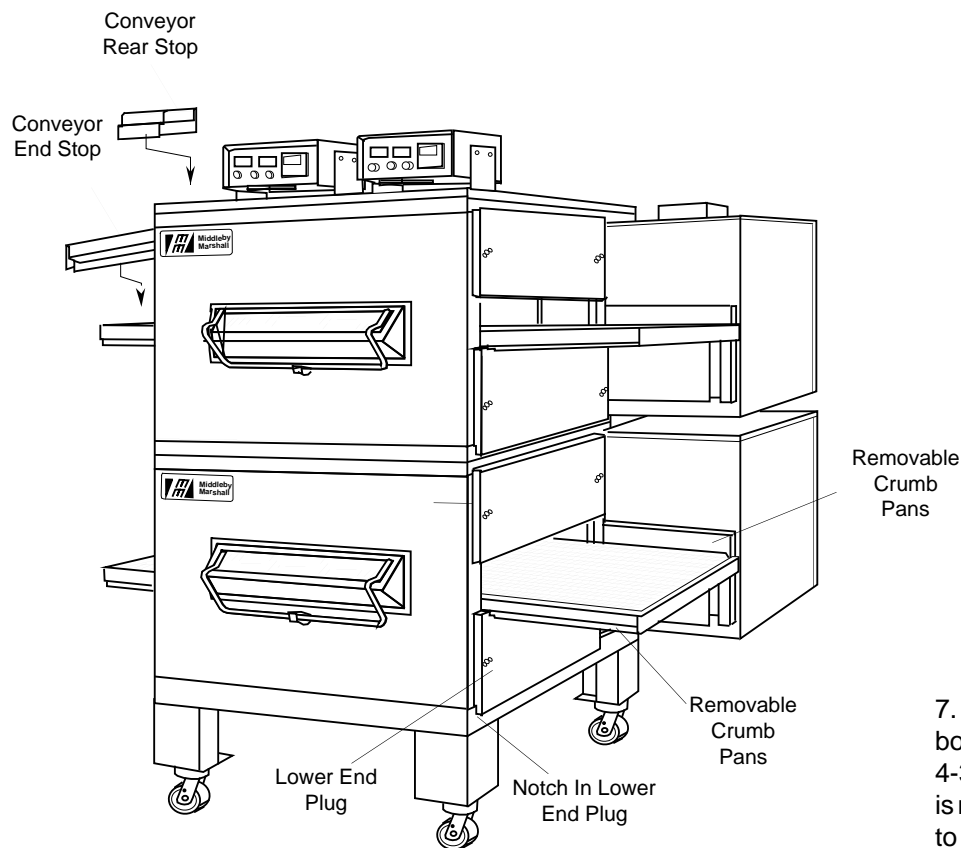

Figure 4-30.
7. Reassemble upper end plugs to both ends of oven. Refer to Figure 4-30. Notice that the upper end plug is not notched. Secure the end plugs to oven using the wing nuts.